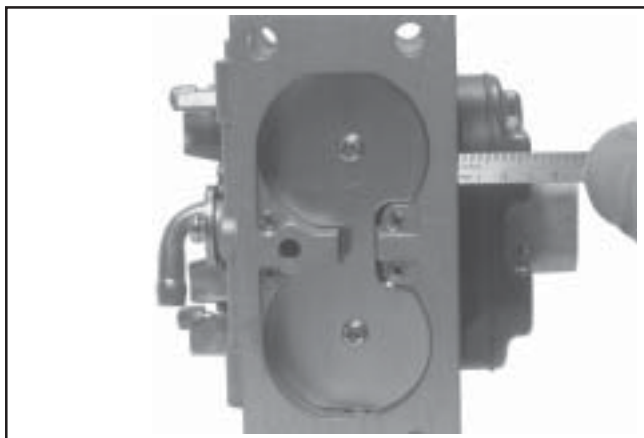

Figure 5-47. Checking Float Height.
8. The correct float height setting is **17 mm (0.669 in.) \pm 1.5 mm (0.059 in.)**, measured from the float bottom to the body of the carburetor. See Figure 5-47. Replace the float if the height is different than the specified setting. **Do not** attempt to adjust by bending float tab.